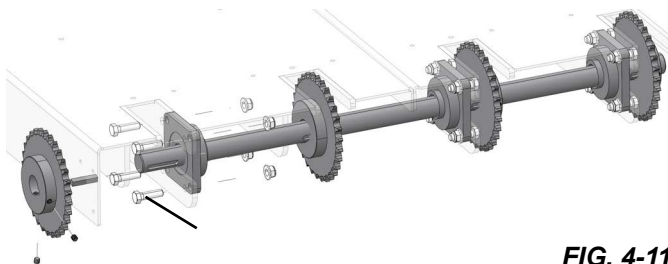

FIG. 4-11
2. Assemble the end table chain shaft as shown in FIG. 4-11.